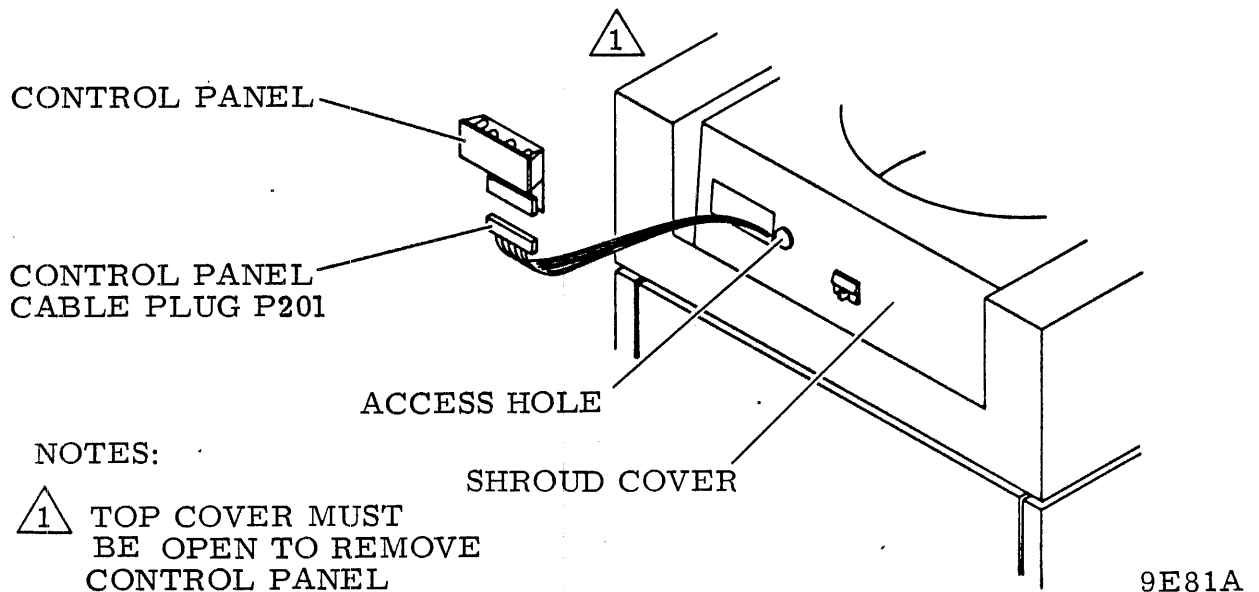

Figure 6-15. Operator Control Panel Replacement
4. Remove plastic plug from access hole in shroud cover (refer to figure 6-15).
5. Snap operator control panel out of its position in shroud cover (refer to figure 6-15).